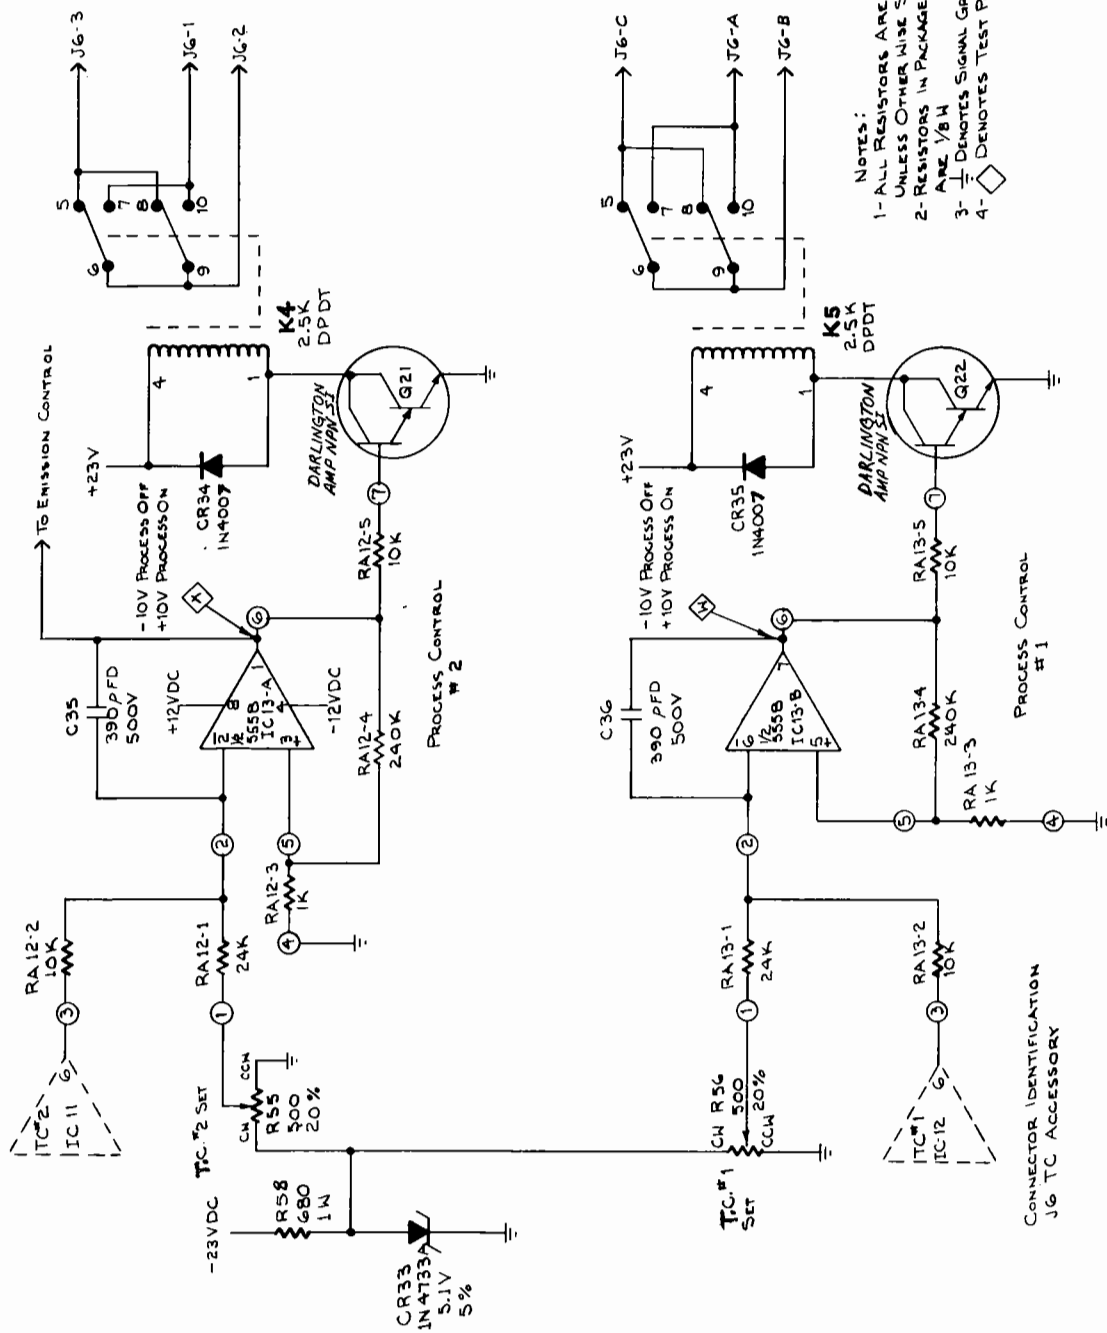

FIG.5-9 THERMOCOUPLE PROCESS CONTROL SCHEMATIC
5.12 Thermocouple Process Control (Refer to Fig. 5-9)
The output of IC13-A is also used to control the filament relay (refer to Fig. 5-9).